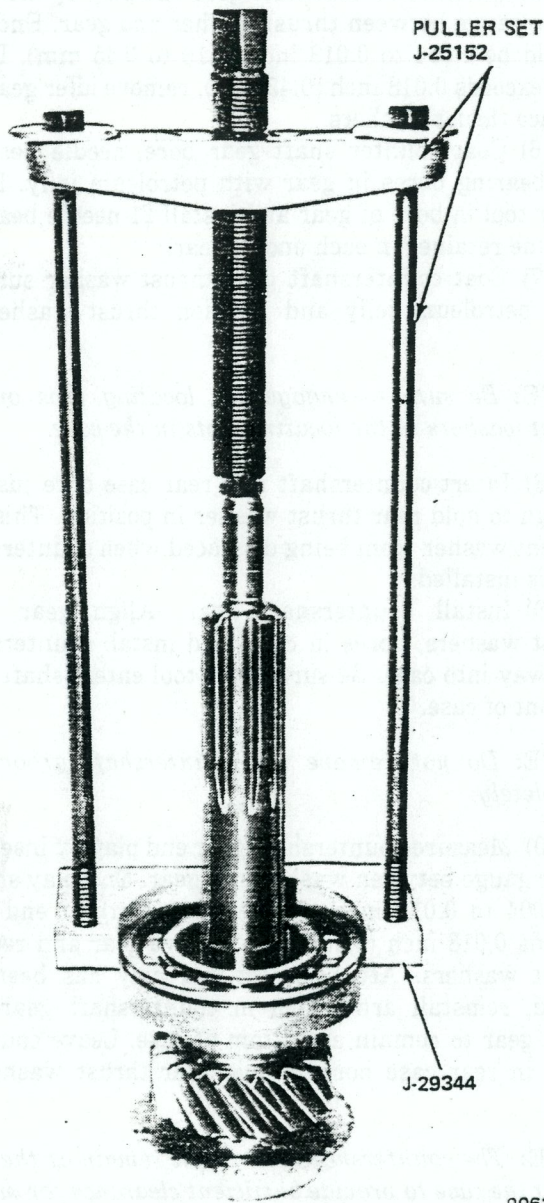

Fig. 2B-29 Removing Front Bearing from Clutch Shaft
(2) Remove third-fourth synchronizer assembly from mainshaft. Slide hub out of sleeve. Remove insert springs and three inserts and blocking ring. Note position of insert springs for assembly reference.
(3) Remove third gear from mainshaft.
(4) Remove second gear snap ring from mainshaft and remove second gear and blocking ring.
(5) Remove tabbed thrust washer from mainshaft (fig. 2B-33).